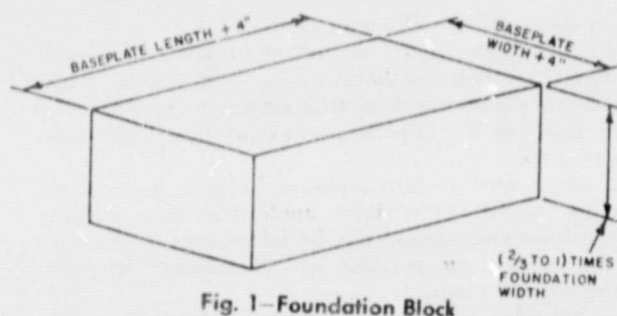
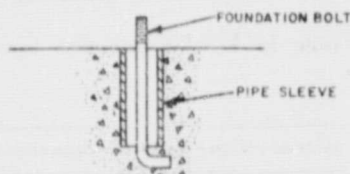

Fig. 1—Foundation Block
Fig. 2—Foundation Bolt
The foundation serves to carry the pump weight and to absorb vibration. Normally, the foundation is made of concrete block, preferably tied in with the floor or ground. Make the foundation block about 4" longer and 4" wider than the base of the frame. Height of the block may vary from $\frac{2}{3}$ to 1 times the width of the foundation (Fig. 1). When foundation is poured, provide a hole near each of the four (4) corners. To simplify installation and maintenance use lead Anchors. Place the front Anchor about 2" from the edge of the foundation to clear overhanging casings (Fig. 2).